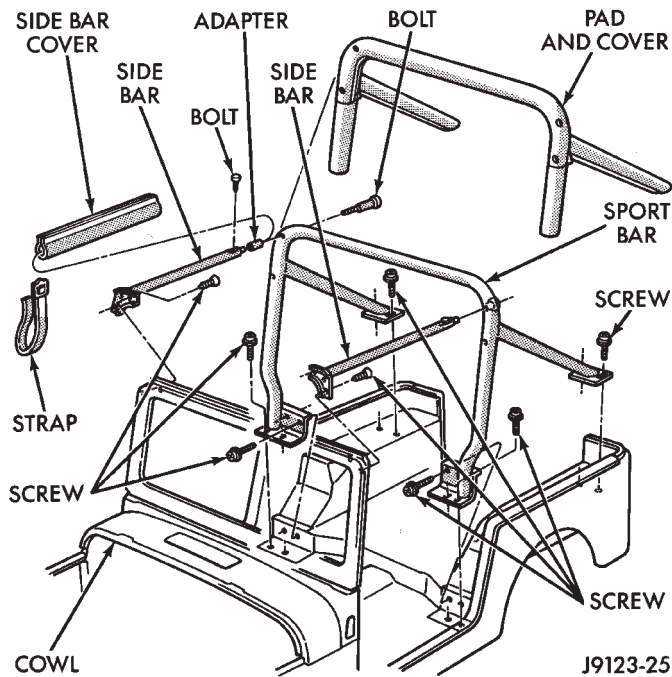
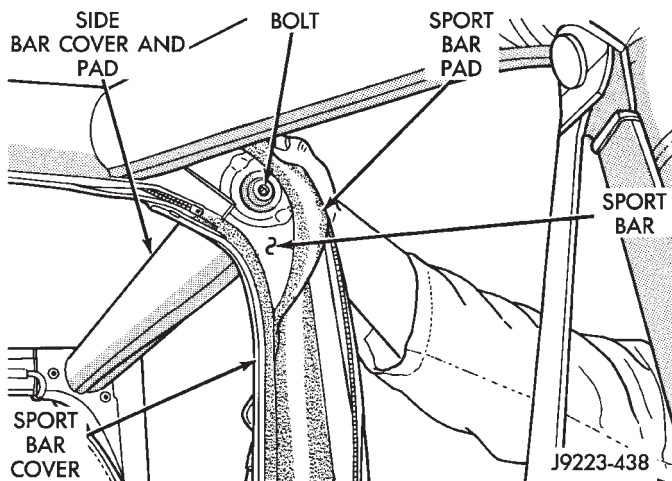

Fig. 119 Sport Bar
Fig. 120 Sport Bar-To-Side Bar Bolt
(1) Remove the screws that attach the sport bar base plates to the floor and wheelhouse panels (Fig. 119).
(2) Remove the retaining screws and bolts, and remove the side bars from the windshield frame and the sport bar (Figs. 119 and 120).
(3) Carefully lift the sport bar upward (Fig. 119) and remove it from the vehicle.
(4) If necessary, remove the pads and covers from the sport bar (Figs. 119 and 120)
(1) Clean the base plate contact surface areas on the floor and wheelhouse panels.
(2) Apply epoxy chromate primer to the attaching screw hole edges for protection against corrosion.
(3) Position the sport bar base plates on the floor and wheelhouse panels with the screw holes aligned (Fig. 119).
(4) Apply sealant to the underside of each base plate attaching screw head. Install and tighten the screws securely (Fig. 119).
(5) Position the side bars at the windshield frame and at the sport bar (Fig. 119). Install screws and bolts in the windshield frame and the sport bar (Fig. 120). Tighten the screws securely.